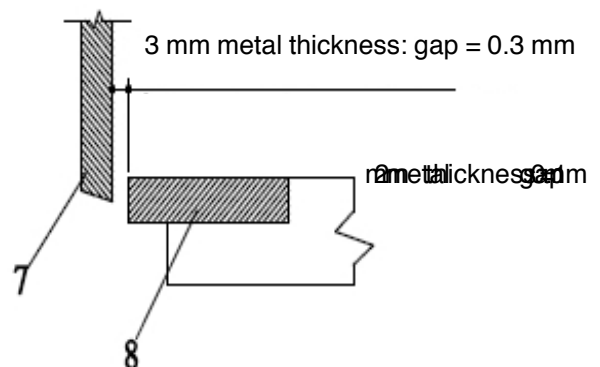

Fig. 13: Ratio of material thickness and cutting gap
Step 9: When adjusting the cutting gap, consider the following values (Fig. 13):